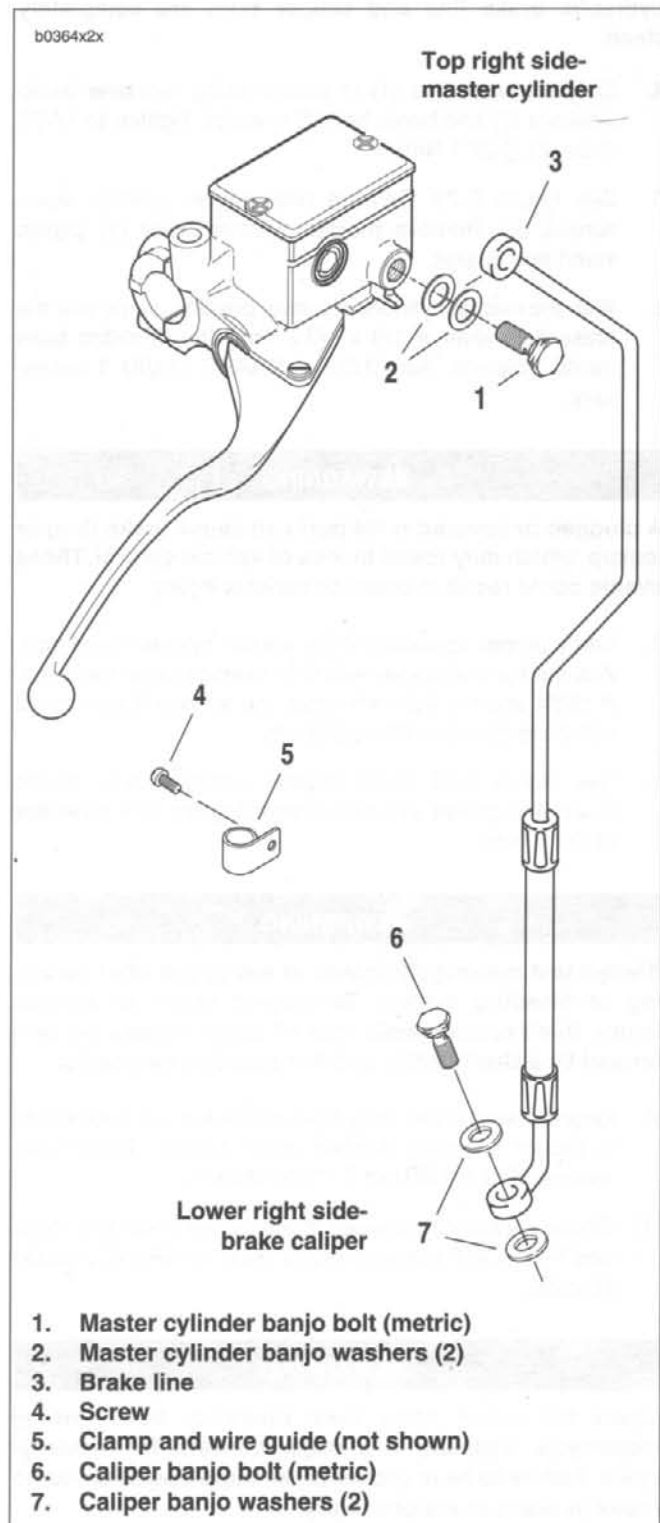

Figure 2-75. Front Brake Line
2. See Figure 2-75. Remove screw (4) to detach brake line clamp and wire guide (5) from right side of lower triple clamp.
1. See Figure 2-75. Connect brake line to master cylinder using two **new** banjo washers (2) and banjo bolt (1) (metric). Loosely install bolt into master cylinder.
3. See Figure 2-75. Connect brake line to caliper using two **new** banjo washers (7) and banjo bolt (6). Loosely install bolt into caliper.
5. See Figure 2-75. Tighten master cylinder banjo bolt (1) (metric) to 16-20 ft-lbs (21.7-27.1 Nm).
6. Tighten brake caliper banjo bolt (6) (metric) to 16-20 ft-lbs (21.7-27.1 Nm).